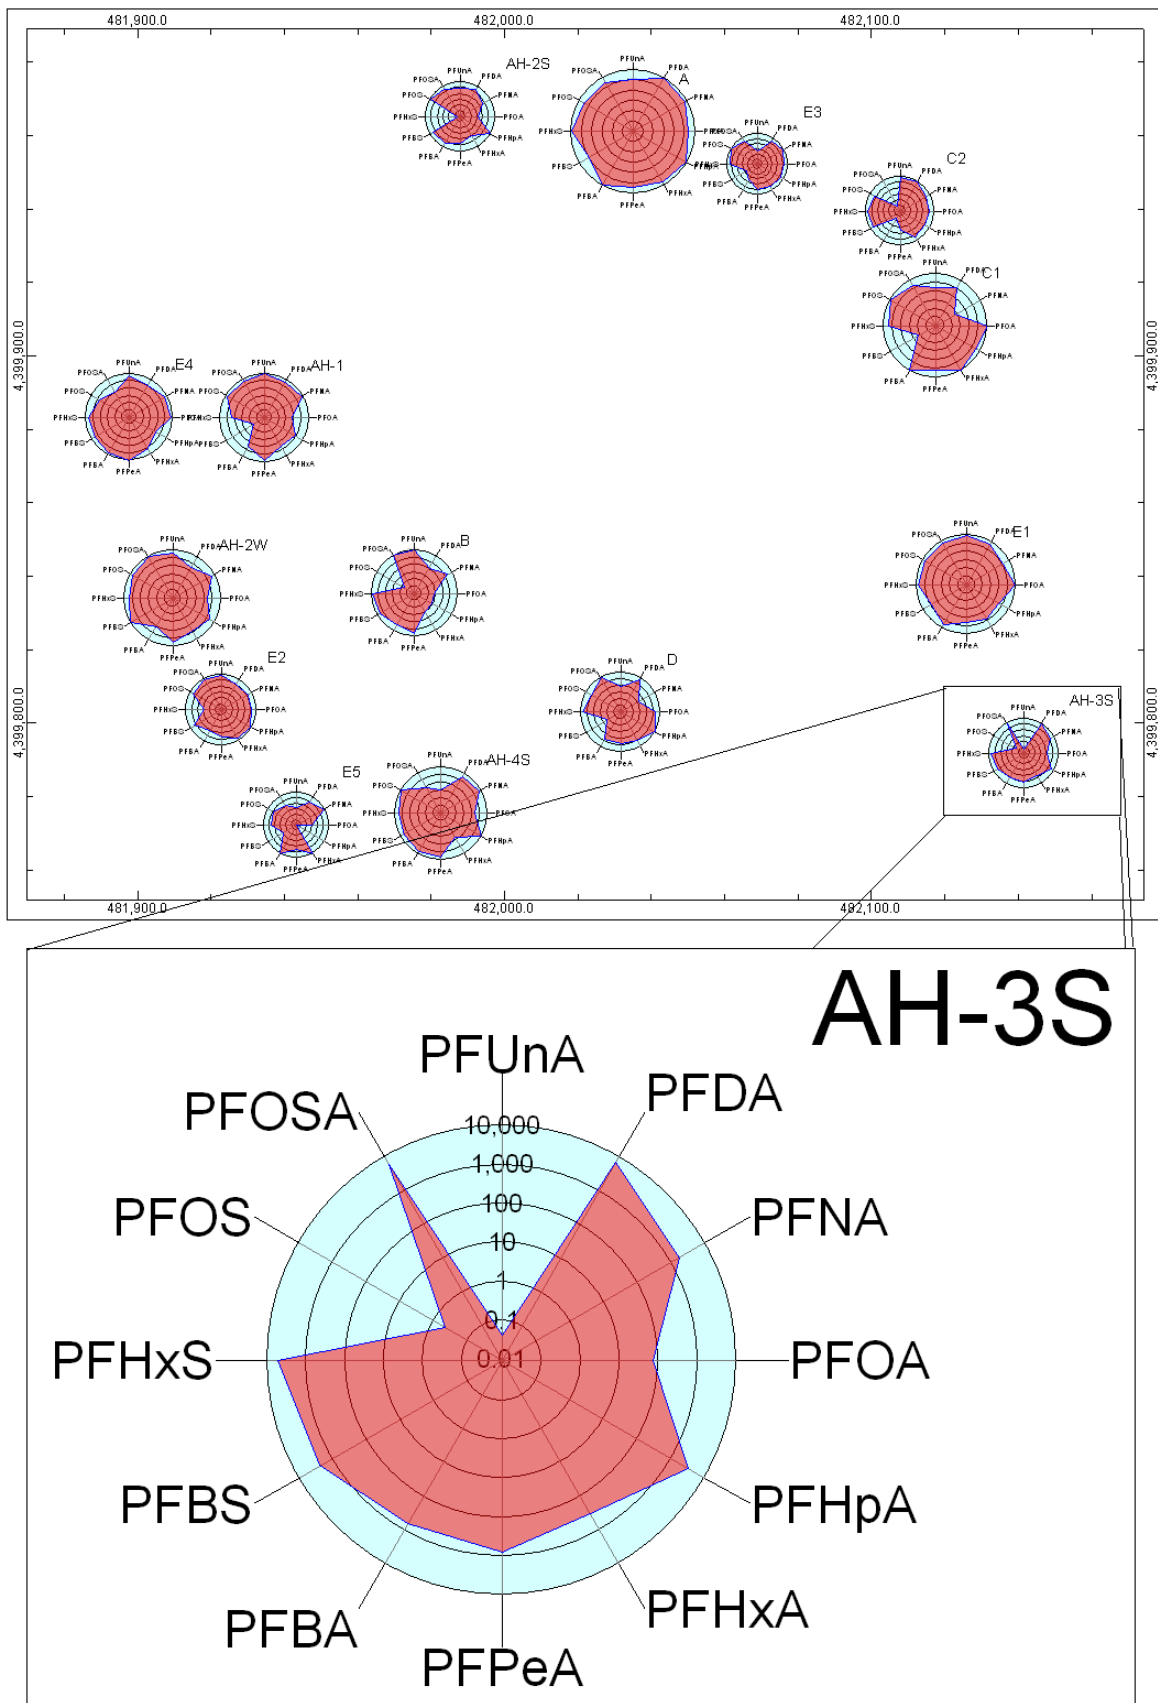

Figure 5
- The **Polygon** setting will draw polygons connecting the intercept vertices (Figure 5) while the **Piechart** setting will draw arcuate wedges from the midpoint to the intercepts (Figure 6). Note that the polygons are monochromatic while the pie slice colors are defined within the **Components** tab.